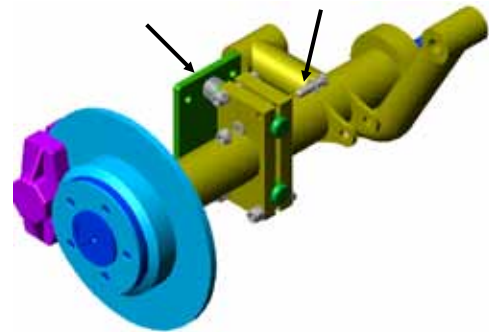

Figure 29
- a. Install three 3/8"-24 x 2-3/4"L Hex Bolts, one 3/8"-24 x 2-1/2"L Socket Head Bolt, seven 3/8"SAE Flat Washers and four 3/8"-24 NyLoc nuts to the Pinch Block. Loosely tighten hardware, as adjustments will be made later. Figure 29